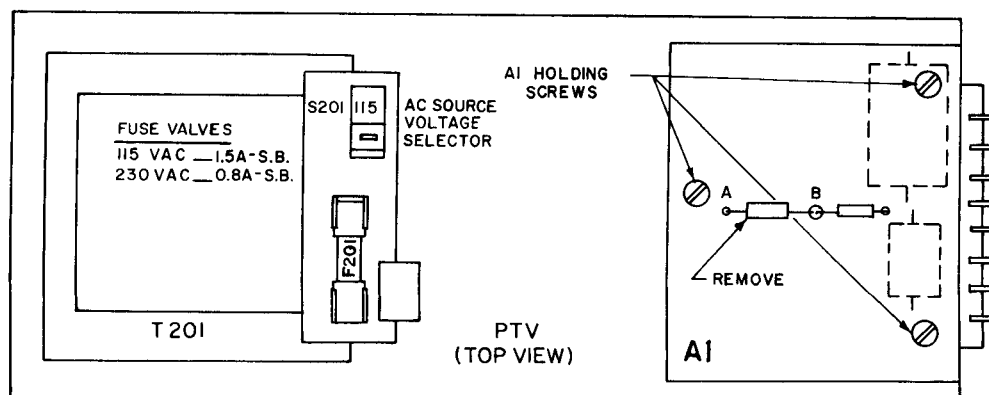

FIG. 2-2 CONVERSION TO 230V a-c OPERATION AND LOCATION OF INTERNAL SIGNAL GROUND.
2-7 This power supply is normally shipped for operation from a nominal 115V a-c source, 60 Hz single phase. The power supply can be quickly converted for 230V a-c source operation by changing the provided selector switch to the "230V" position. The switch (S201) is located directly on the power transformer (T201) (refer to FIG. 2-2). For 230V a-c operation, the fuse for 115V a-c operation (F201) must be replaced by one with half the 115V rating. (See FIG. 2-2 for fuse values).
- 2-9 a) **SAFETY GROUND.** For safety reasons, it is important that the metal chassis of the PTR Power Supply be connected to an a-c ground. If a 3-wire line cord and a properly grounded outlet are used, the grounding is automatically accomplished. If only a 2-wire line cord is used, the metal chassis of the power supply must be grounded separately by returning barrier-strip terminal (3) to an a-c ground.
- b) **SYSTEM GROUND.** The d-c output terminals of the PTR Power Supplies are isolated from the a-c power line and from the chassis, except for a capacitor/resistor series connection from the negative (-) output to chassis. Since no d-c connection exists to the chassis, either side of the power supply may be grounded. A maximum of 500V (d-c or p-p) can be connected between chassis and either output terminal. If the provided internal capacitor/resistor connection from (-) output to chassis is not desired, and the positive side of the PTR is to be grounded, the system ground may be established outside the power supply by removing the jumper (A)-(B) as shown in FIG. 2-2.
- 2) Refer to FIG. 2-2. Remove (3) holding screws for assembly (A1) and lift assembly to the side.
- 3) Clip or unsolder wire jumper between terminals (A) and (B). Remount assembly (A1) and fasten. Remount PTR cover.